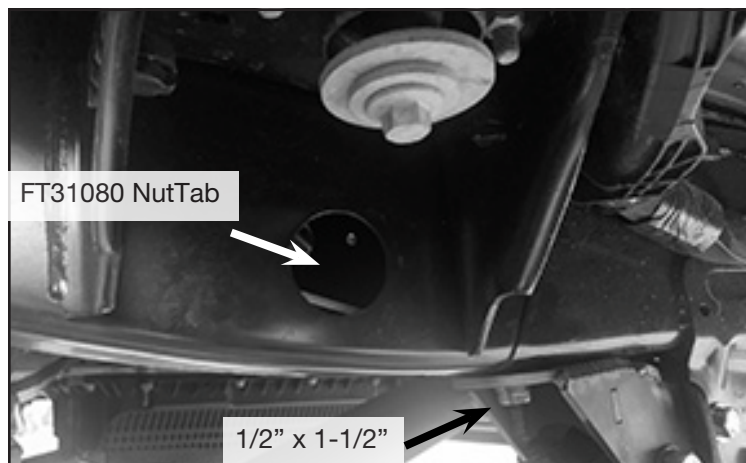

FIGURE 15 - STEP 17
17. Install the supplied FT31080 (Nut Tab) through the factory frame opening and install the 1/2" x 1-1/2" bolt, washer and split washer to attach the new 4-link bracket to the frame. **SEE FIGURE 15.** Torque 3/4" hardware to 380 ft-lbs and the 1/2" hardware to 106 ft-lbs.